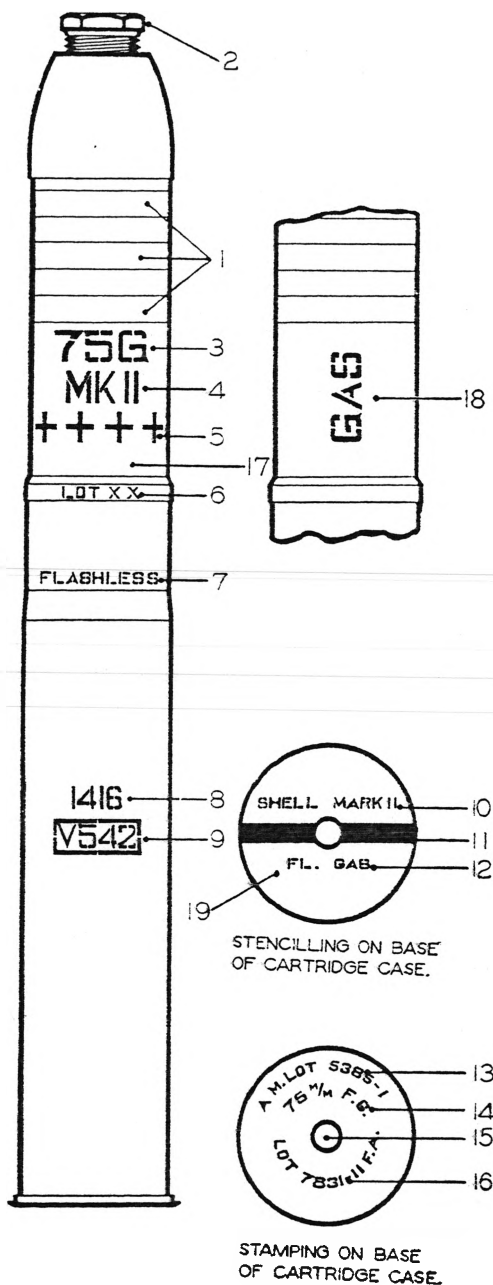

FIG. 5.—Marking of 75-mm. chemical shell, Mk. II, fixed ammunition for field gun (Old system)
(2) The old marking system is shown in Figure 5. The symbol of the chemical filler corresponding to the bands on the shell and the stencil marking on the shell to show the type of chemical filler are as follows: